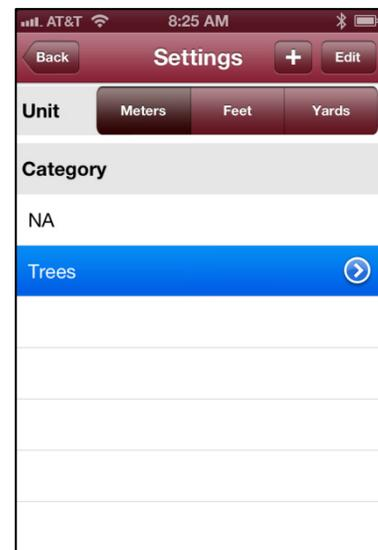
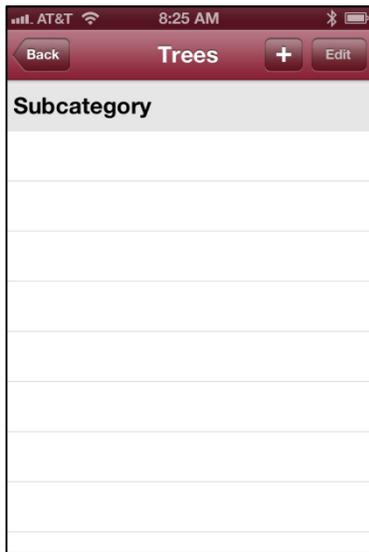

Figure 10
Figure 11
1. Tap the blue arrow next to the category under which the subcategory will be created. In this example, the category "Trees" is selected to add species subcategories (Figure 10 on page 5). The subcategory list is displayed (Figure 11).